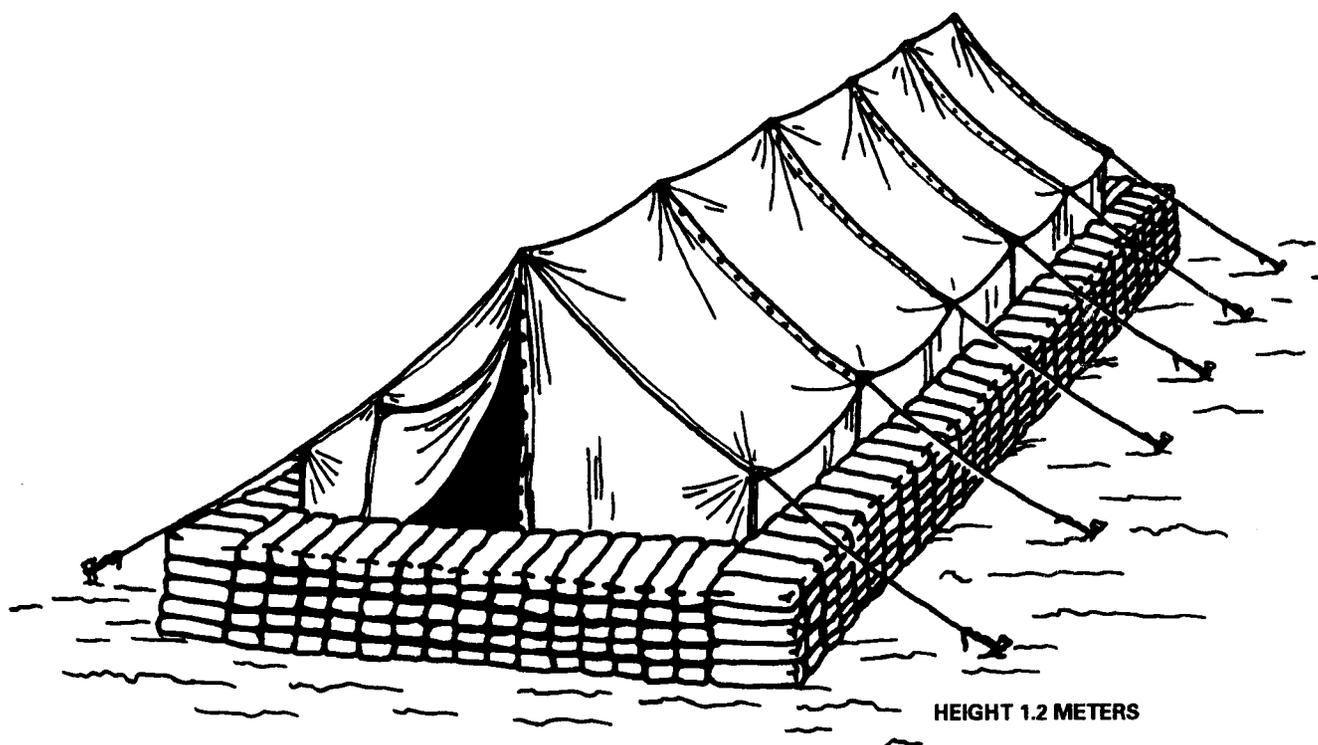

Figure B-4. Sandbag walls around tents.
e. Sandbag walls around the hospital tents as shown in Figure B-4, or lightly constructed buildings provide protection from fallout. Sandbag walls 1.2 meters (4 feet) high give significant protection (20 to 40 percent transmission factor); however, the effort required to achieve the protection is such that it is marginally feasible. Sandbagging is an effective means for supplementing other shelters by—